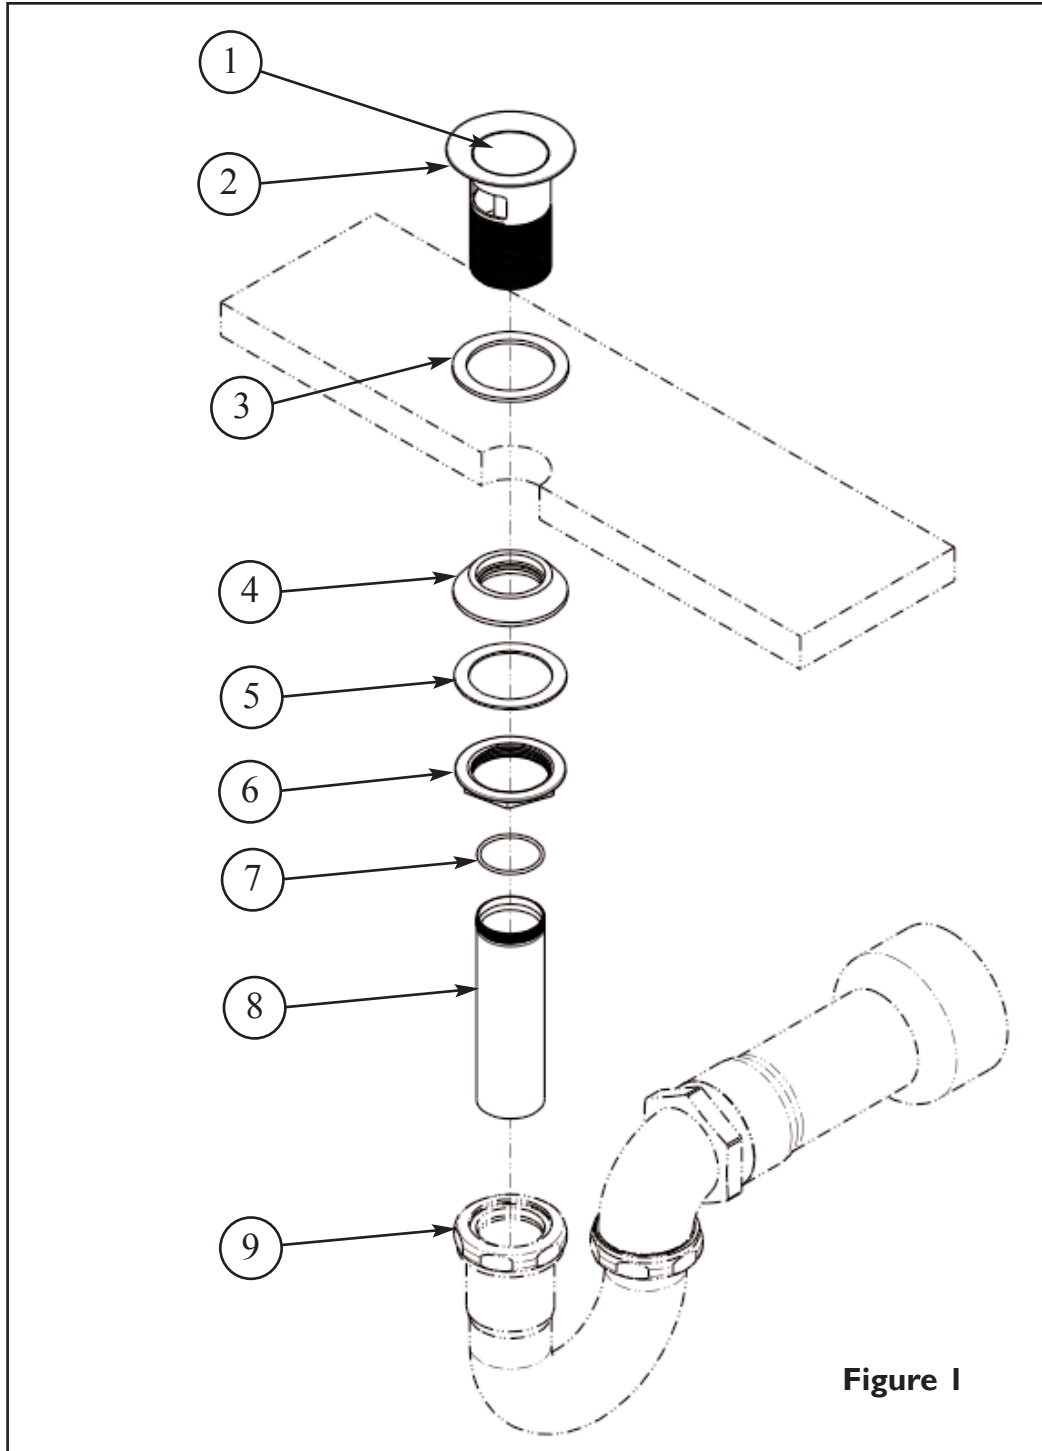

Figure 1
- a. 1/2" IPS flexible RISER (2), discard rubber NOSECONE (7), friction WASHER (3) and coupling NUT (4).
- b. 3/8" or 1/2" O.D. bullnose RISER (5), place friction WASH-ER (3) and coupling NUT (4) onto bullnose RISER (5).
- c. 1/2" O.D. copper RISER (6), place coupling NUT (4), friction WASHER (3), and rubber NOSECONE (7) onto end of copper RISER(6).
- Turn VALVE STEM (5) to OFF position.
- Tighten ESCUTCHEON (3) with O-RING (4) onto CARTRIDGE (6).
- Place HANDLE (1) into the VALVE STEM (5) and secure with SET SCREW (2). Any adjustments for rotational alignment must be made to the valve body, not to the cartridge.
- Do not remove drain PLUG (1) from FLANGE (2). Place FLANGE (2) and white WASHER (3) through sink drain opening. (Clear silicone may be used in place of white washer.) From bottom side of sink, place cone shaped rubber WASHER (4) onto FLANGE (2) and slide up against sink bottom. Note: Cone portion of WASHER (4) to face upward. Next slide on clear flat WASHER (5) and secure with flange NUT (6). Assemble O-RING (7) to TAILPIECE (8) and attach to drain FLANGE (2). Attach TAILPIECE (8) to p-trap drain (9) (not included). See Figure 1.